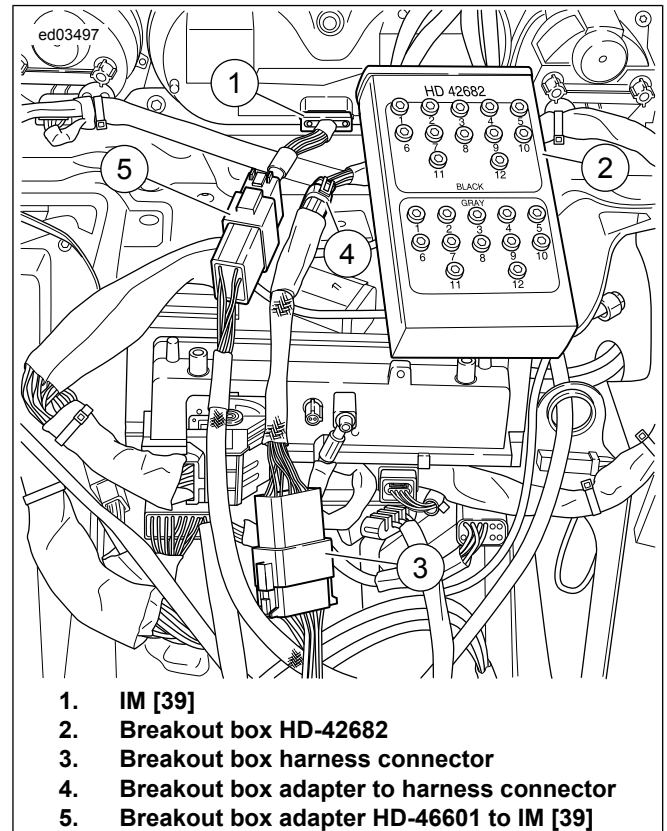

Figure 1-8. Breakout Box Connection
2. See **Figure 1-8**. Press latch and disconnect [39B].